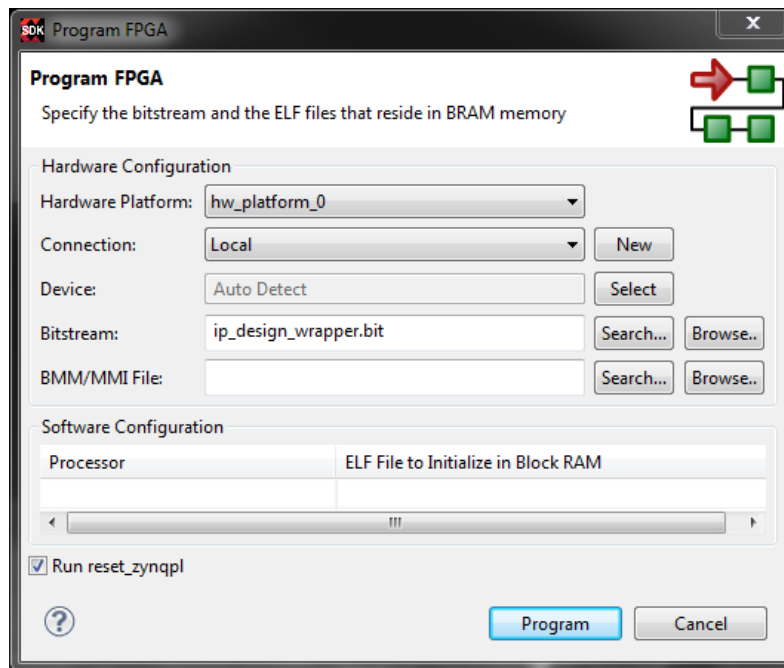

Figure 5.19: Program FPGA window
- (u) Select **Xilinx Tools > Program FPGA** from the *Menu Bar*. The Program FPGA window should be configured as in Figure 5.19.